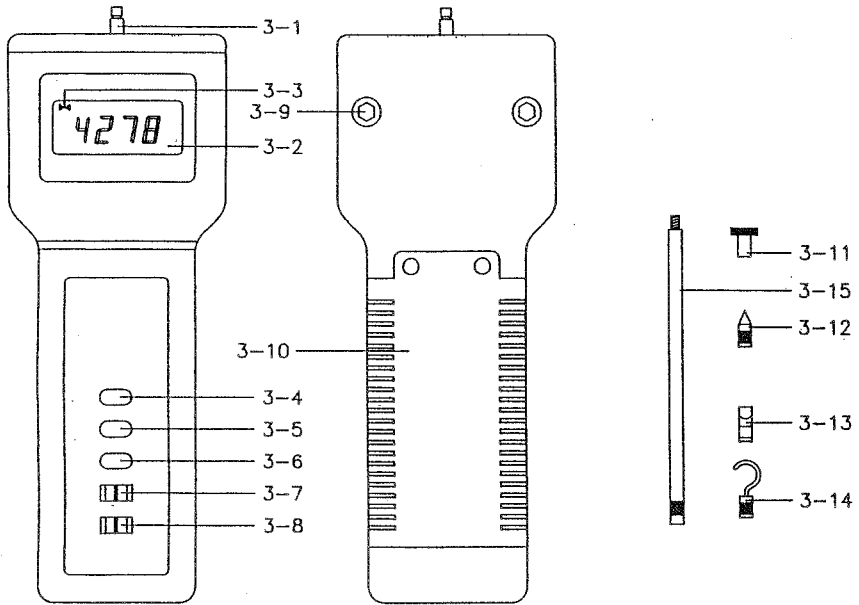

Fig. 1
- 1) Slide the " Power Off/On/Peak Hold Switch " (3-8, Fig. 1) to the " On " position.
- 2) Determine display unit of g, oz or Newton by selecting " g/oz/Newton Unit Switch " (3-7, Fig. 1).
- 3) Connect " Sensing Head " (3-1, Fig. 1) with proper " Adapter " (3-11 to 3-14, Fig. 1) and the " Measuring Object " should be in straight line. Don't give any force in standby mode..
- 5) " Zero Adjust " by pushing " Zero Button " (3-6, Fig. 1) before every measurement.
* During the measurement, if intend to change the display direction, just push the " Reverse Button " (3-5, Fig. 1) once.
* There are two kind sampling time of display, FAST and SLOW. Push the "FAST/SLOW Button" once (3-4, Fig. 1), if the upper left corner of LCD show " (101) " (Fast Indicator, 3-3, Fig. 1), then the display reading is under the operation of fast sampling time.
* If the upper left corner of LCD not show the "Fast Indicator" (3-3, Fig. 1), the display reading is under the slow sampling time.
The meter can measure the peak value of force both of tension & compression operation. The operation procedures of Peak Hold Measurement are same as above "4-2 Normal Measurement" but should slide the "Power Off/On/Peak Hold Switch" (3-8, Fig. 1) to the "PEAK H." position.
Slide the "Power Off/On/Peak Hold Switch" (3-8, Fig. 1) to the "On" position will cancel the peak hold function.
- 2) Remove battery cover (3-10, Fig. 1) to expose batteries.